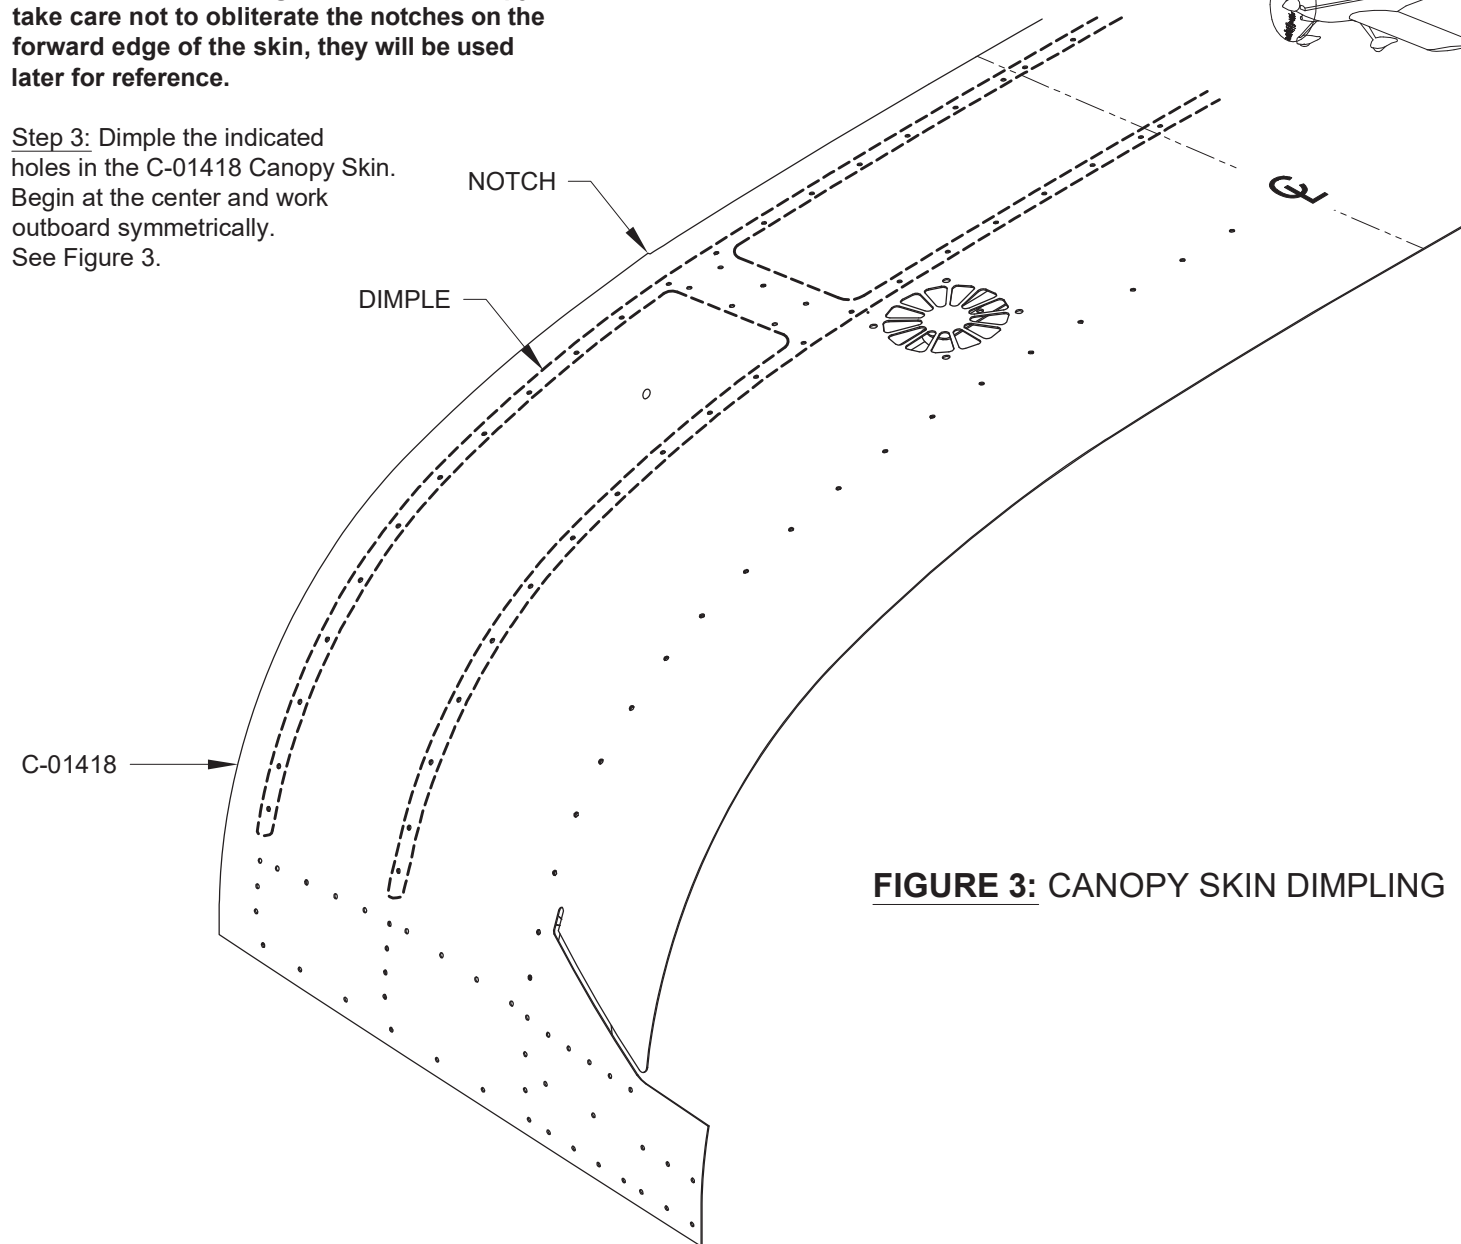

FIGURE 3: CANOPY SKIN DIMPLING
Step 3: Dimple the indicated holes in the C-01418 Canopy Skin. Begin at the center and work outboard symmetrically. See Figure 3.